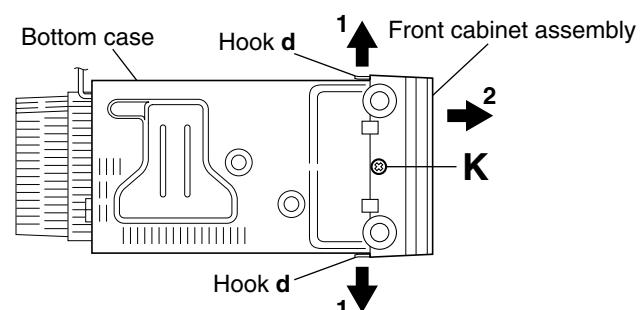

Fig.12
(See Fig.12.)
7. While opening the hooks **d** to the left and right of the lower part of the front cabinet assembly (in the direction of the arrows **1**), slide the front cabinet assembly toward the front (in the direction of the arrow **2**). (See Fig.12.)
8. Disconnect the wire from the connector on the PB/REC head board, and then remove the front cabinet assembly. (See Fig.12.)